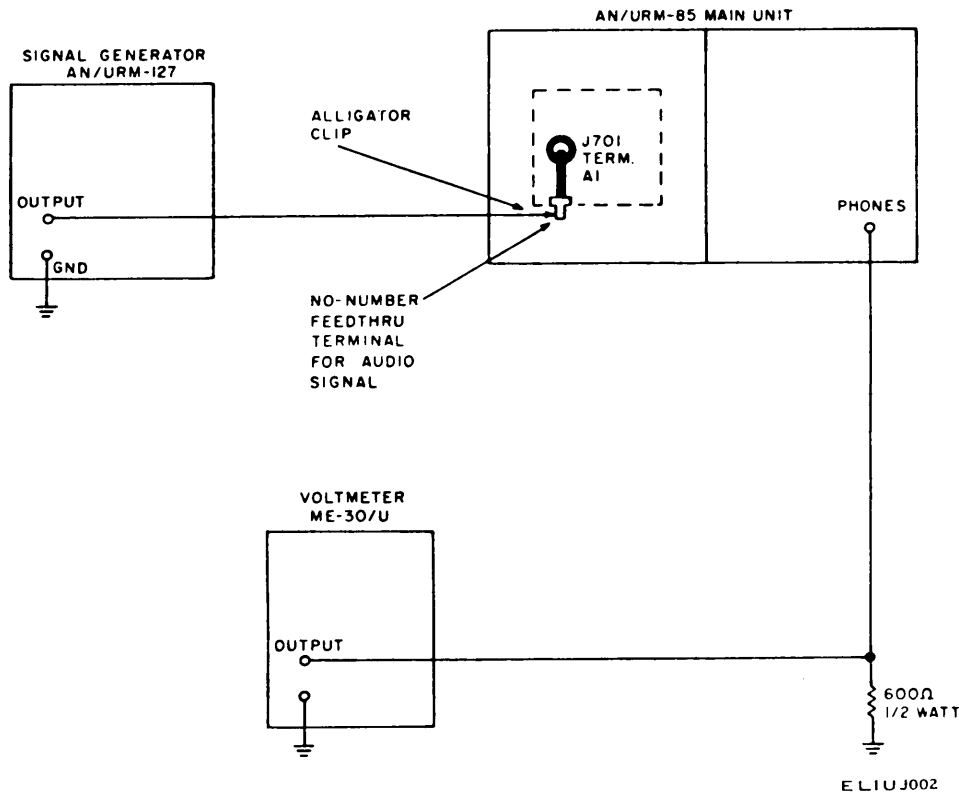

Figure 95.2. Test setup for audio amplifier response test.
c. Adjust the output of the signal generator to produce a signal of 0.1-volt amplitude from terminal A1 of J701 (fig 95.2) to ground.